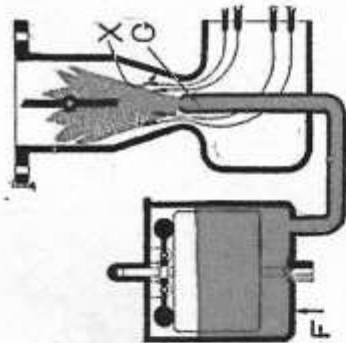
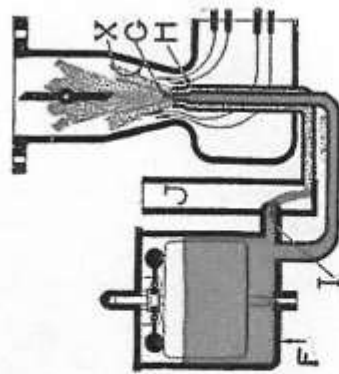

Fig. 1.
Fig. 3.
The simple carburetor: A simple carburetor is one having a fuel chamber, a single air entrance and a single jet (see Fig. 1). Suction, created by the pumping of the pistons, causes fuel and air to flow through the carburetor into the engine. Each alternate downward stroke of a piston draws a fresh charge of mixed fuel and air from the carburetor into its own particular cylinder, where it is compressed and exploded.
Look at Fig. 3. You will see Figs. 1 and 2 combined. In this view cap jet (H) surrounding main jet (G) forms what we call "the compound nozzle."
Number 8 is the main jet. Follow it and its connections and compare with diagrammatic view shown in Fig. 1.
It empties into the well (J) (Fig. 3, page 1293), which is open to the atmosphere and accordingly is not affected by the suction.